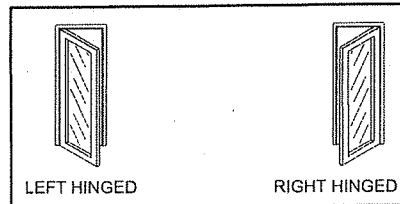

FIGURE 2
A. From outside the door, determine if your door is a right or left hinged door. See Fig 2.